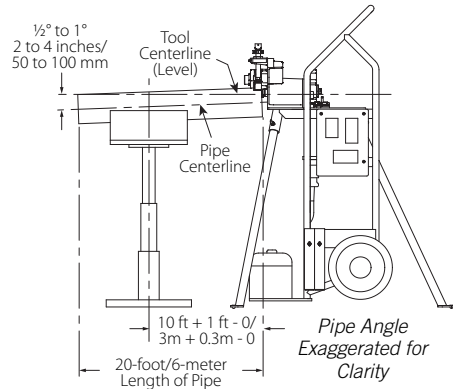

FIGURE 1 – SUPPORT OF PIPE
- a. Ensure that the tool is level. Refer to the “Tool Setup” section for leveling requirements. Set the pipe stand height to produce a $\frac{1}{2}$ to 1° pitch on the pipe away from the tool (see Figure 1). This will help promote tracking and reduce pipe end flare.
- d. If the tool is properly set up in a level position, but the back end of the pipe/tubing is higher than the end being grooved, the pipe/tubing may not track. As a result, excessive flare may occur on the pipe/tubing end. Refer to Figures 1 and 2 and the “Tool Setup” section for pipe/tubing positioning and tool setup requirements.
- Figure 1 shows a typical pipe stand.
- e. Position the pipe stand at a distance slightly beyond half the pipe/tubing length from the tool. Refer to Figure 1 below.